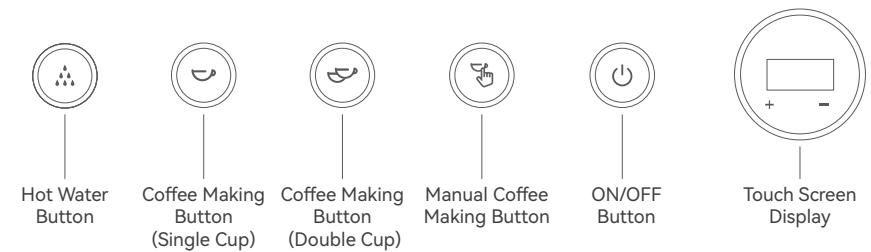

Figure 1
3. Press the ON/OFF button (Figure 1), the coffee machine will automatically fill with water and the sound of the water pump rotating can be heard;
1. When the steam pressure gauge reads more than 0 bar, press the hot water button (see Figure 1), and the machine will start timing. The hot water will flow out from the hot water wand. When the steam pressure gauge reads 0 bar, the water will be at room temperature;
1. At any time, turn off the ON/OFF button to (Figure 1) turn off the corresponding functional parts;